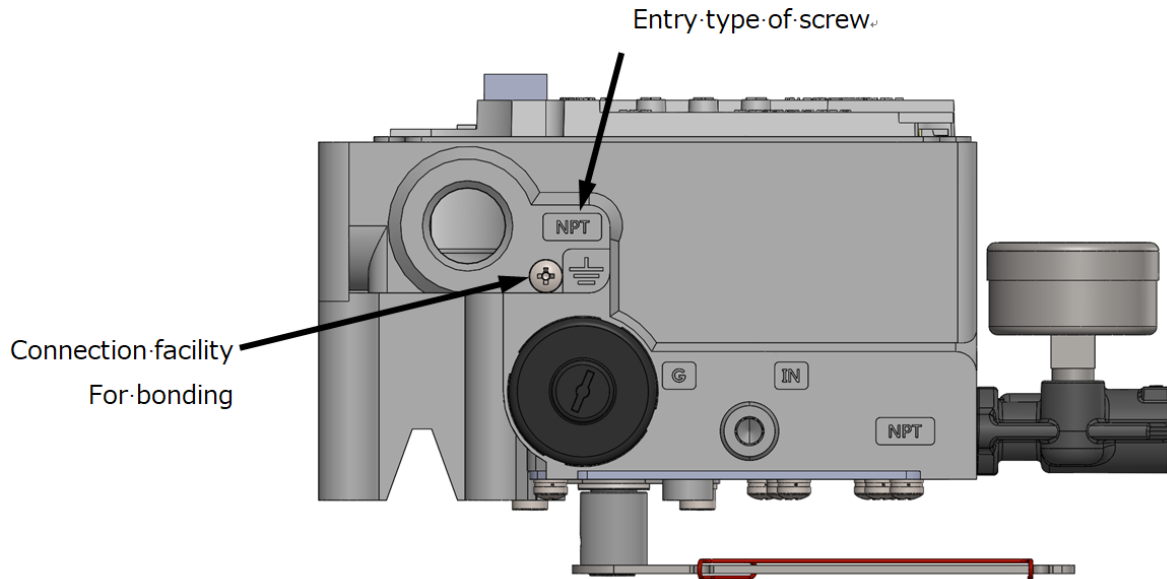

Figure 2.6b Entry type of screw and Connection facilities for bonding
- The width of the connection facilities for a terminal lug is 8.2mm and the fastener for a terminal lug is M4 screw, therefore the dimensions should be  $B < 8.2\text{mm}$  and  $d2 > 4\text{mm}$  in case of ring terminal as Figure 2.6b